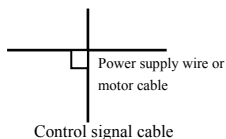

Fig.3-16 System wiring demand
(1) Avoid parallel cable from inverter to motor (U, V, W terminal education wire) and power supply wire (L1, L2, L3 terminal input wire). Should keep distance of 30cm above.
(2) Try your best to place motor table from U, V, W terminals in metal tube or metal wiring slot.
(3) Should use shielded cable as common control signal cable, shielding layer close-to-inverter side earthed after connected with \ominus terminal of inverter.
(4) Cable educed from inverter \ominus terminal must be connected directly to earth-plate and can't be connected to ground through grounding wire of other devices.
(5) Powerful cable(L1, L2, L3, U, V, W)should not parallel control signal cable closely, say nothing of being bundled together, must keep distance of 20~60cm above (related to size of powerful current). Should cross each other vertically if intersection, as Fig.3-16.